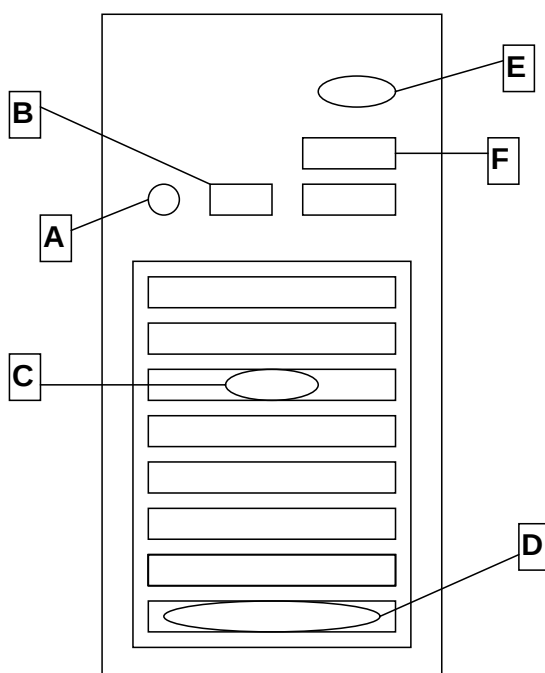

Figure 1. Computer
1. Connect Keyboard cable into location **A** (**Figure 1**) on back of computer.